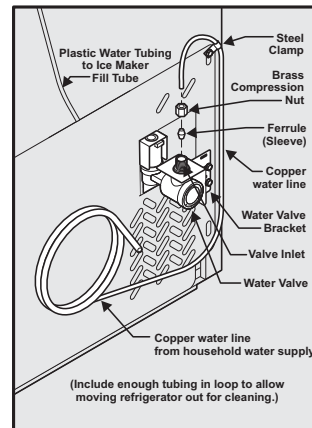

Figure 1
4. **If you use copper tubing** - Slide brass compression nut, then ferrule (sleeve) onto water supply line. Push water supply line into water valve inlet as far as it will go ($\frac{1}{4}$ inch / 6.4 mm). Slide ferrule (sleeve) into valve inlet and finger tighten compression nut onto valve. Tighten another half turn with a wrench; **DO NOT** over tighten. See Figure 1.